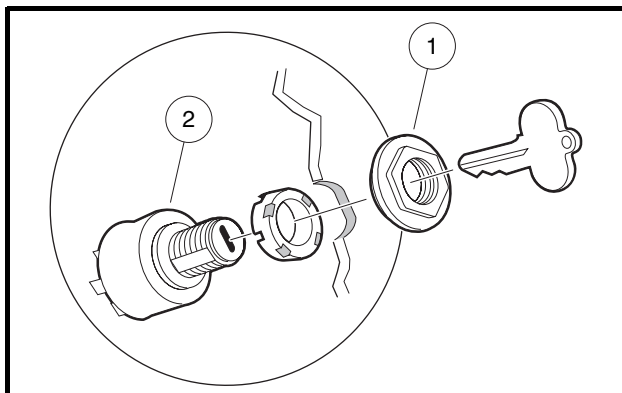

Figure 13-17 Key Switch Removal
- 4.1. Remove the key switch nut (1) (**Figure 13-17, Page 13-14**).